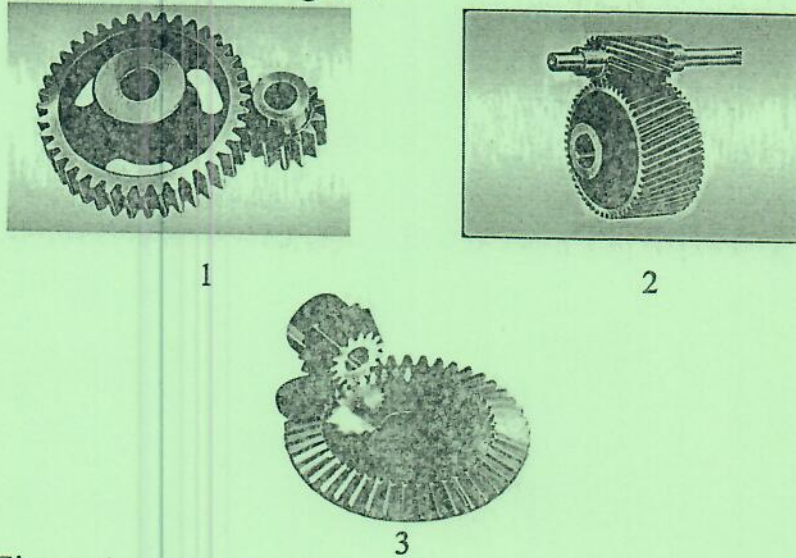

Figure 4 Types of gears
- b) Figure 4 shows three common types of gears used in farming machines. Name the gears [6 marks]